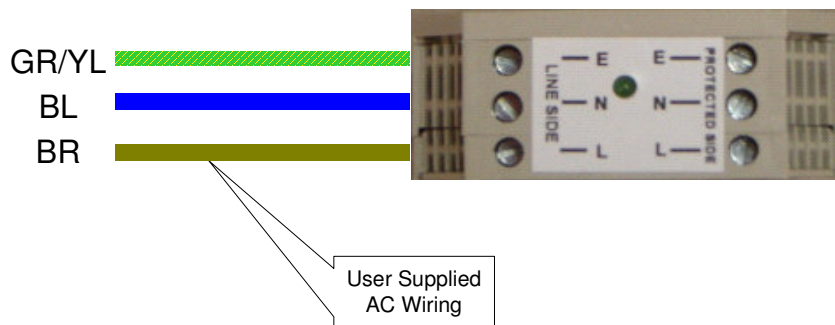

Figure 2.4.1-1 User AC Power Wiring
5. Feed the power cable into the enclosure through the cord grip. Strip ~6 mm (1/4") of insulation from each of the three conductors and connect them to the line (left) side of the Surge Protection Module as shown per Table 2.4.1-1 and in Figure 2.4.1-1.